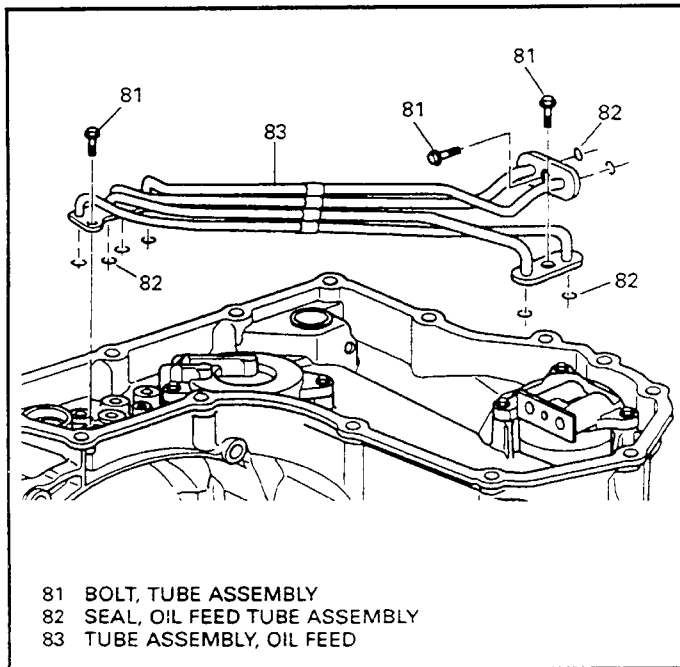

Figure 50
24. Remove the four oil feed pipe bolts (81), and remove the oil feed pipe assembly as shown in Figure 50.